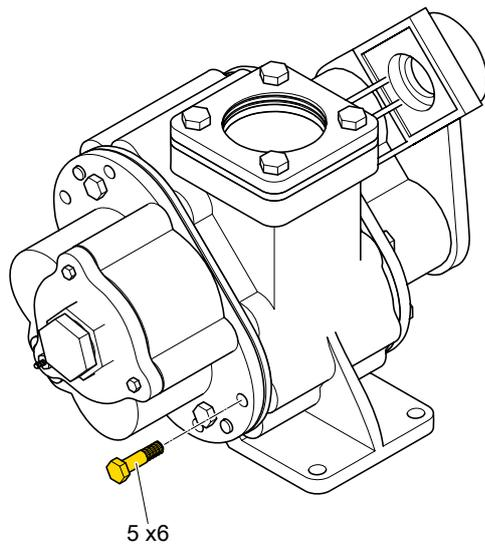

Figure 5: Bolts
5. Reinstall the Pump Valve. NOTE: Ensure that all Bolts [5] are tightened to 25 N·m. (Fig. 5)